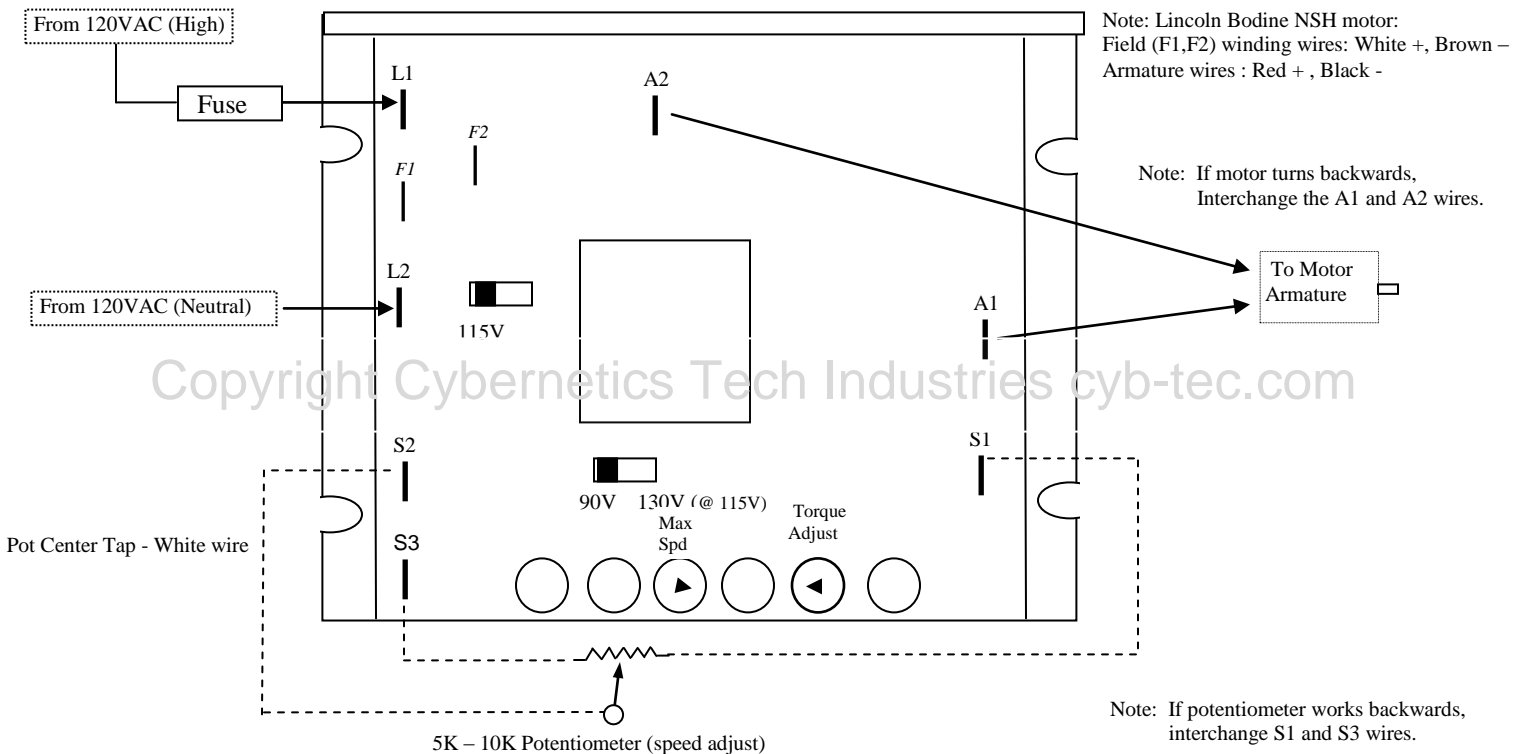

Figure 1 - Wiring Diagram
3. Wire per Figure 1 below. F1 and F2 (Field) connections are only for shunt wound motors not permanent magnet motors.